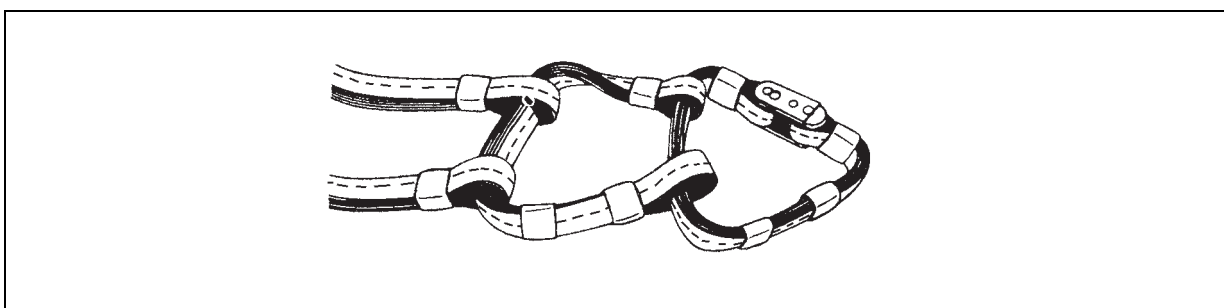

Figure 6-37. Basket Hitch
- The basket hitch (figure 6-37) attaches sling legs to the load or to the ring. It is easy to remove this hitch from the load after a lift and to separate the sling legs.